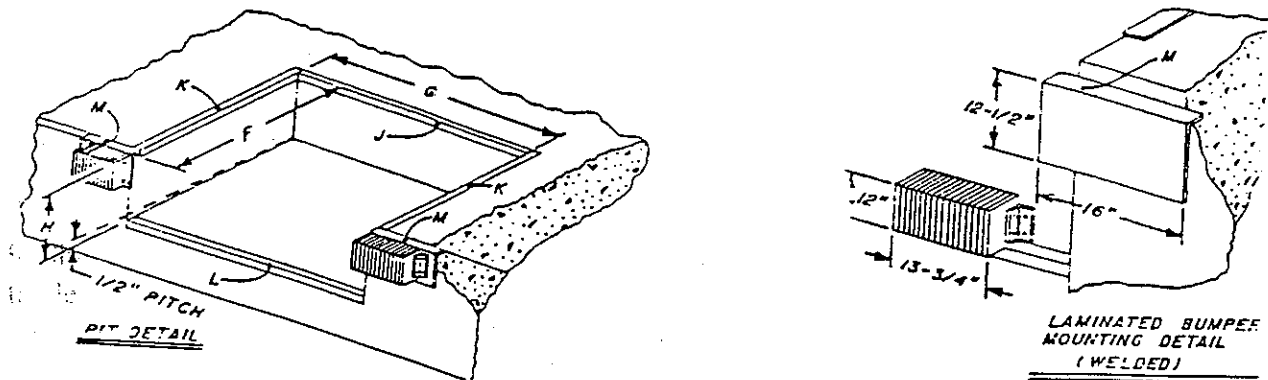

Figure 1
1. Check pit for proper construction. Clean out all debris. Make sure the walls of the pit are plumb and square. Measure dimensions shown in figure 1 and table 1, measure pit depth along a straight edge laid across the width of the pit 6 1/2 inches from the rear wall and 2 inches from the edge of the dock.